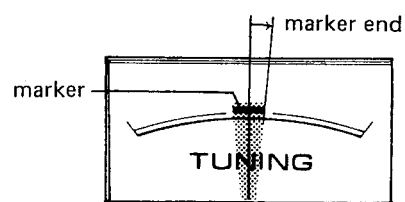

Fig. 13 TUNING meter
16. Tune the TUNING knob a bit so that TUNING meter needle is near the marker end (Fig. 13). Adjust VR₁₀ so that the needle indicates dead center of the marker.